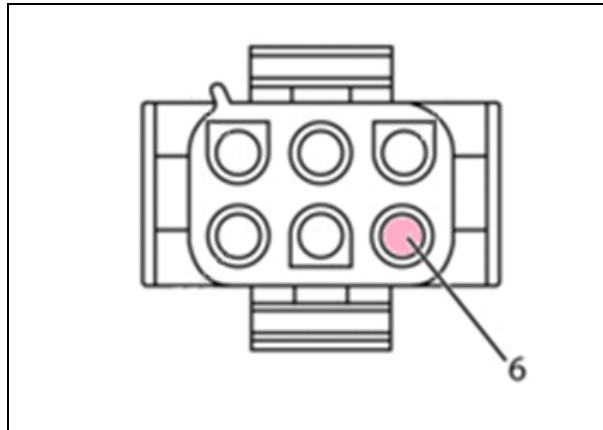

Figure 10
7. Using an ohm meter, test for continuity between the male end of connector MH-2 Pin 6 (pink wire) and body ground. (See Figure 10.)